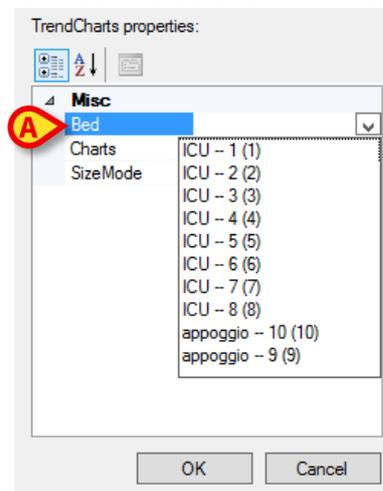

Fig 59
6. Click the “Bed” row to define the bed to which the chart refers (Fig 59 **A**).